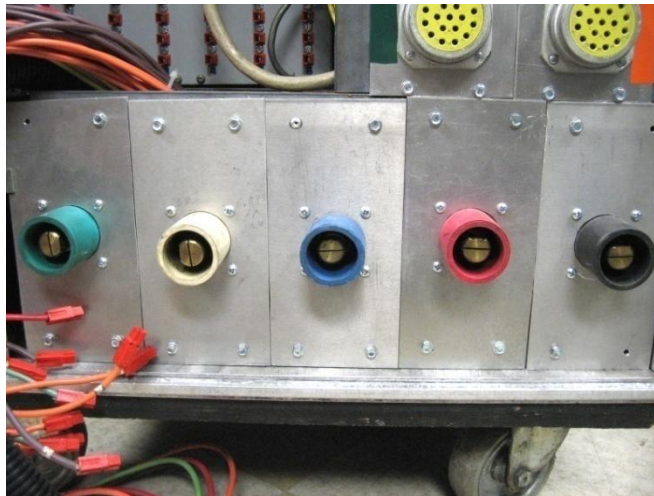

Figure 19 - Connectors for ground (green), neutral (white), and the three phases of power (blue, red, black)
- Make sure that the female end goes into the dimmer rack (see Figure 19), and the male end goes into the camtap.